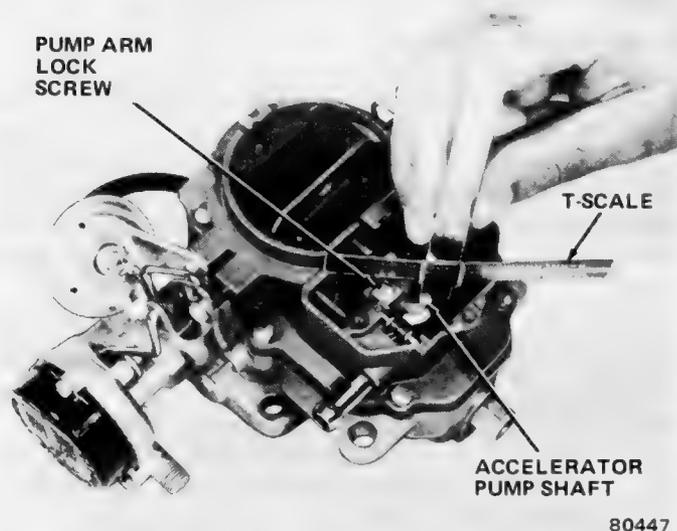

Fig. 1J-83 Accelerator Pump Adjustment
- (1) Remove dust cover.
- (2) Back off curb idle speed adjusting screw to completely close throttle valve. Open choke valve so fast idle cam allows throttle valves to seat in bores.
- (3) Turn curb idle adjusting screw in until it just contacts stop. Then continue two complete turns.
- (4) Measure distance between surface of air horn and top of accelerator pump shaft (fig. 1J-83). Refer to Specifications for correct dimension.
- (5) Loosen pump arm adjusting lock screw and rotate sleeve to adjust pump travel to proper measurement. Tighten lock screw.
- (6) Install dust cover.